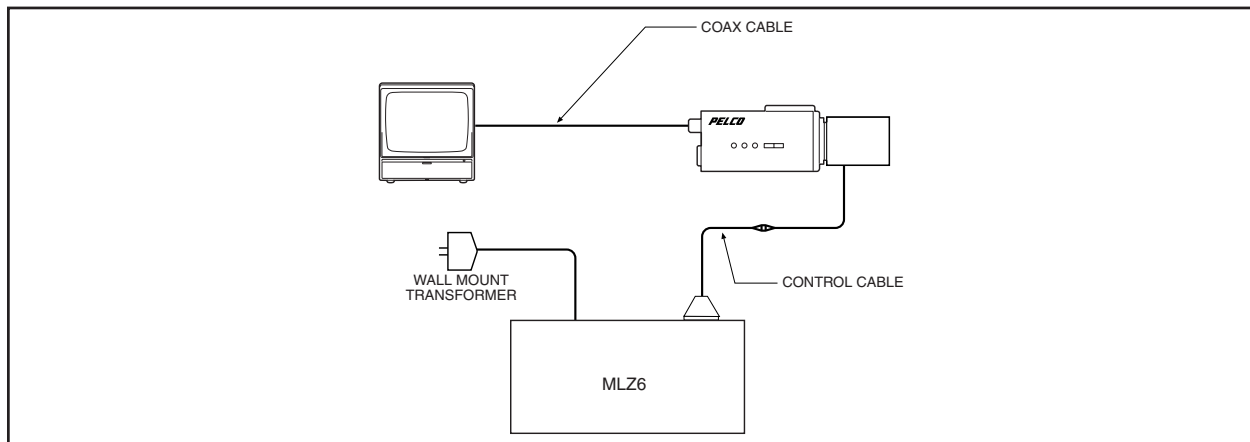

Figure 3. Basic System Configuration
1. Hook up the control cable between the output connector on MLZ6DT and the input connector on the lens (see Figure 3).